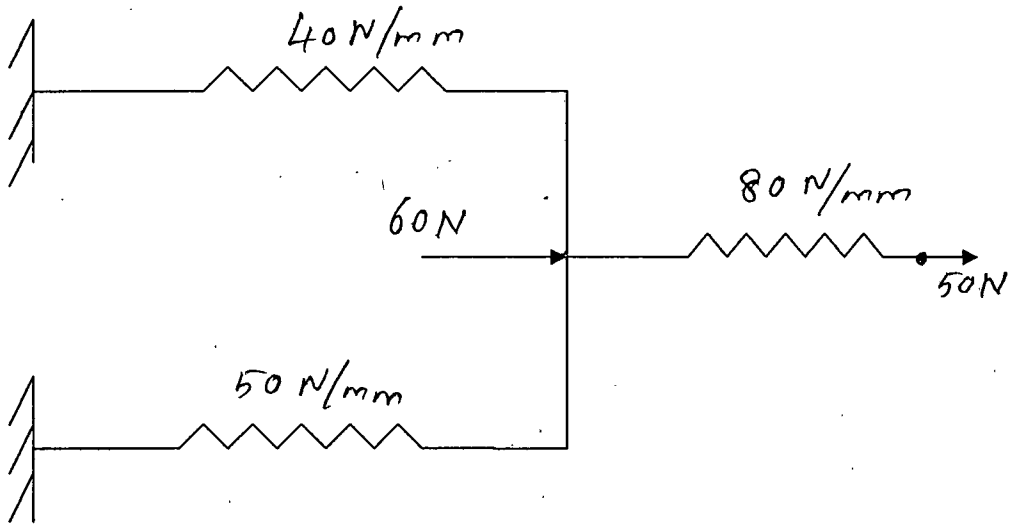

Figure.13.b
13.b Determine the displacement and the reaction forces at nodes in the spring system shown in figure. 13.b Use minimum of potential energy principle to assemble equations of equilibrium. 16